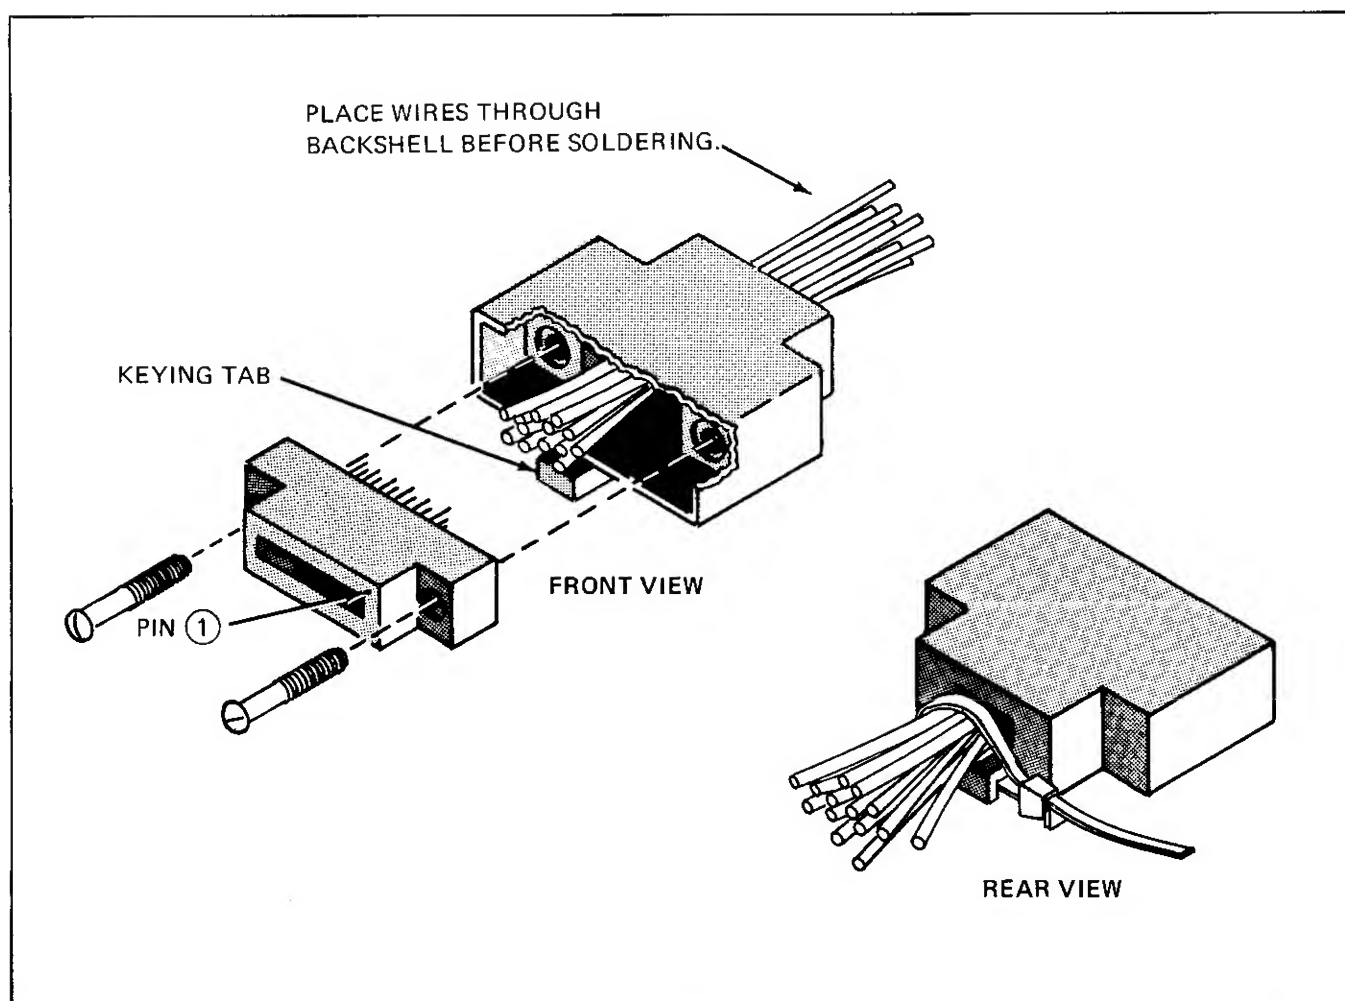

Figure 602-1. MATING CONNECTOR END OF THE DOU INTERFACE CABLE
- b. Slide cable wires through the DOU connector backshell (hood) as shown in Figure 602-1.
- h. Position the sleeving over the solder joints, and install the connector backshell (hood) and strain relief as shown in Figure 602-1.